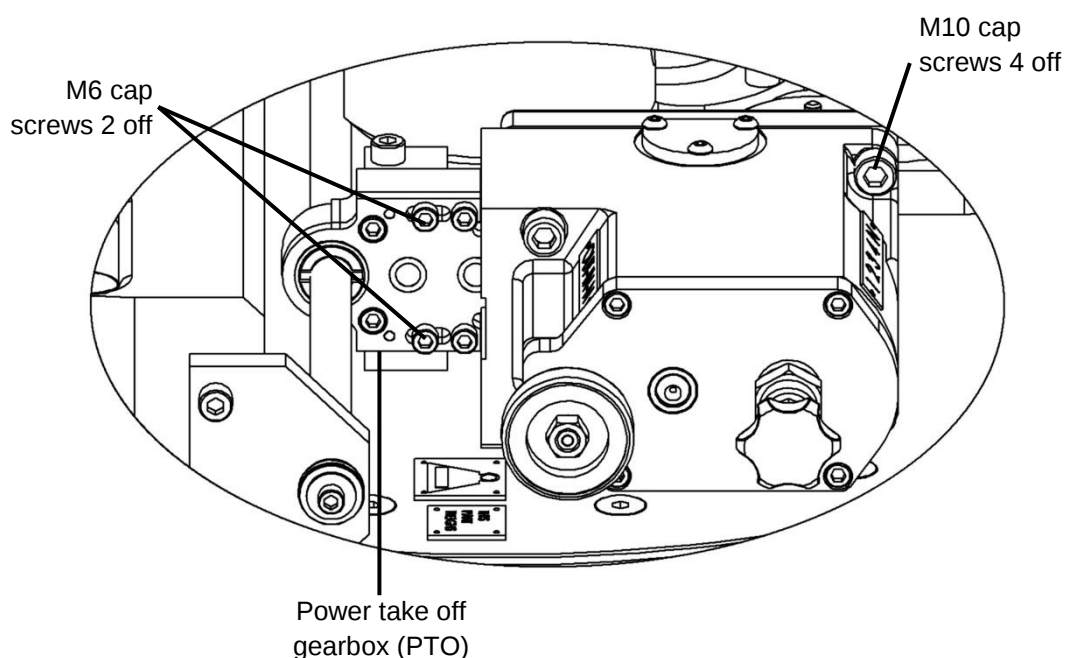

Fig. 25 Gearbox
4. Remove 2 off M6 cap head screws from the PTO box (power take off); the screws located in the slots of the PTO box lid (see Fig. 25) and the 4 off M10 cap head screws from the gearbox.